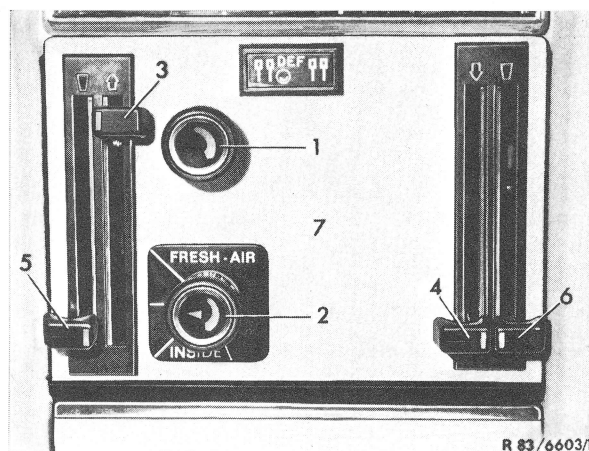
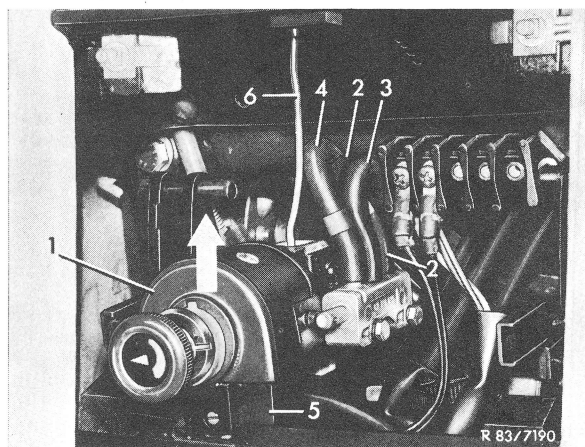
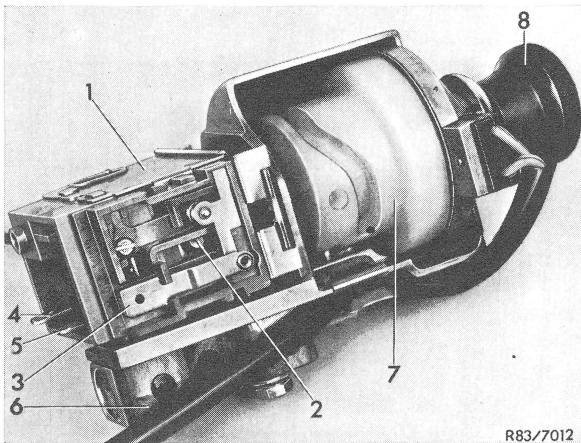

Figure 1 Layout of temperature vacuum switch
Figure 2
Figure 3
- 1 Remove escutcheon with knob from temperature vacuum switch (2) (Fig. 1).
- 2 Remove cover (7) (68.1–200, item 9 to 12).
- 3 Remove temperature vacuum switch from holder (5) in upward direction (Fig. 3).
- 4 Remove cover from temperature switch (1) (Fig. 3).
- 5 Adjust temperature switch (1) by turning adjusting screw (2). A full turn corresponds to approx. 2° C. Then put cover back on temperature switch.
- 6 For further installation refer to item 12 and 17 to 19.
- 7 Remove escutcheon with knob from temperature vacuum switch (2) (Fig. 1).
- 8 Remove cover (7) (68.1–200, item 9 to 12).
- 9 Remove temperature vacuum switch (1) upwards in direction of arrow from holder (5) (Fig. 2).
- 10 Pull capillary (1) with temperature sensor out of evaporator box (3). Pull the three flat plugs from temperature switch and also loosen double plug connection (Fig. 2 and 4).
**12** Attach temperature vacuum switch (1) to holder (5) or on vehicles without holder (5) screw with knob and escutcheon (8) to cover (7) (Fig. 1 to 3).
**14** Connect electric line black/green to terminal 1, line black/blue to terminal 2, and the two electric lines blue/white and grey to terminal 4 of temperature switch (Fig. 3).